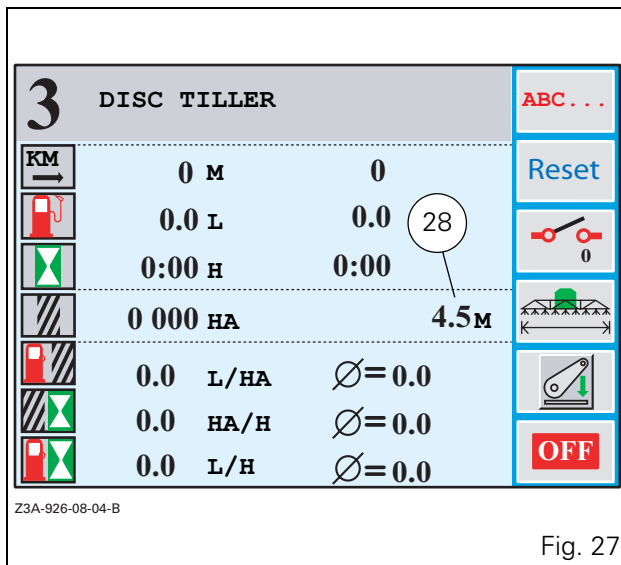

Fig. 27
- Validate the width by pressing the encoder. The window (Fig. 27) is displayed.
- Press the key «₂ when the window (Fig. 27) is open. A mark facing the total fuel used is displayed (30 Fig. 29).